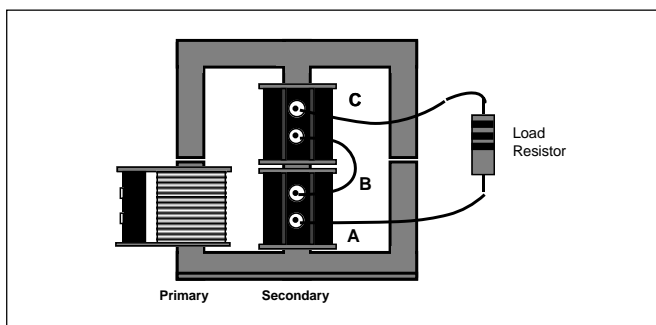

Figure 5
- Now connect the two 400-turn coils so that they have maximum voltage and current output. With the 1000- Ω resistor as a load, connect the leads of the oscilloscope between points A and B as shown in Figure 5. What is the shape of the wave form? What is the waveform between points A and C? How does the size of the waveform between A and B compare to that between A and C?
- In this step, set the triggering of your oscilloscope again to "LINE". Connect the ground lead (often a clip lead) from your oscilloscope to point B in Figure 5. With the probe at point A, note the waveform. With the probe at point C, again note the waveform and also any differences between that and the one found at point A. How would you describe this difference?